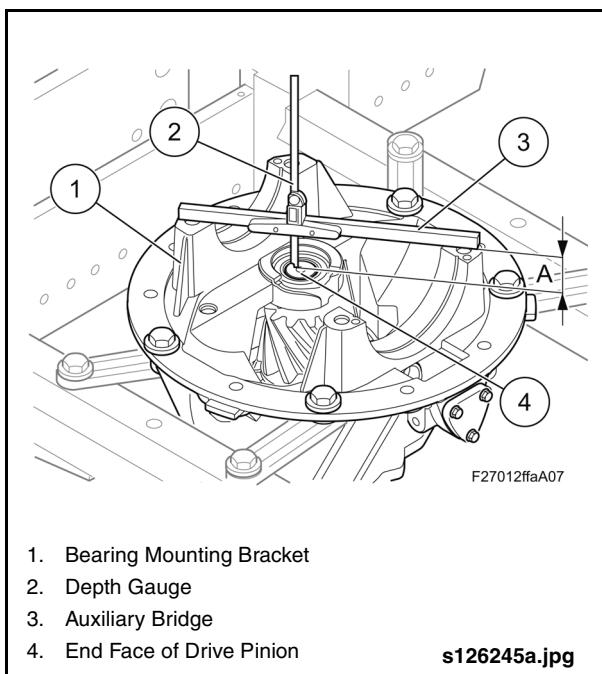

Fig. 2-85: Pinion Depth
3. Place the depth gauge with auxiliary bridge across the bearing mounting brackets. See "Fig. 2-85: Pinion Depth" on page 69.